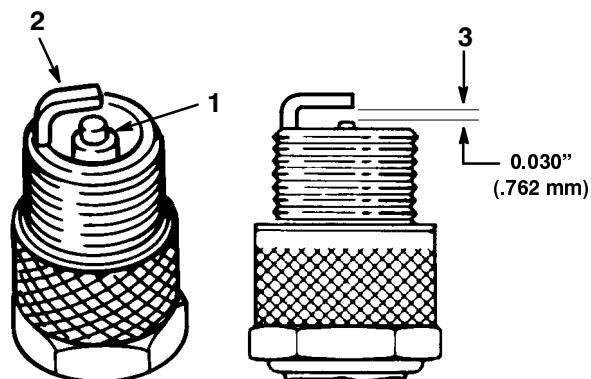

Figure 16
1. Look at the center of the spark plug(s) (Fig. 16). If you see light brown or gray on the insulator, the engine is operating properly. A black coating on the insulator usually means the air cleaner is dirty.
2. Check the gap between the center and side electrodes (Fig. 16). Bend the side electrode (Fig. 16) if the gap is not correct.